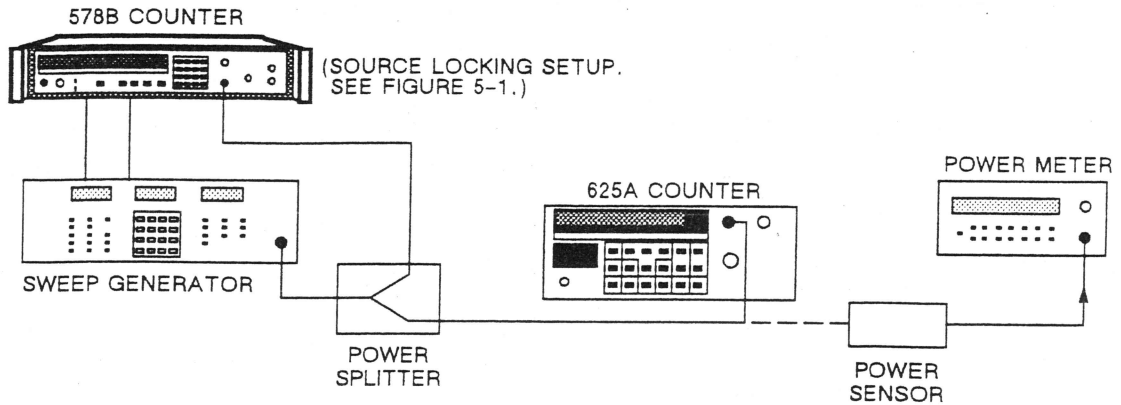

Figure 8-2. Band 1 Range and Sensitivity Test Setup (20 MHz to 100 MHz).
1. Connect equipment as shown in Figure 8-2.